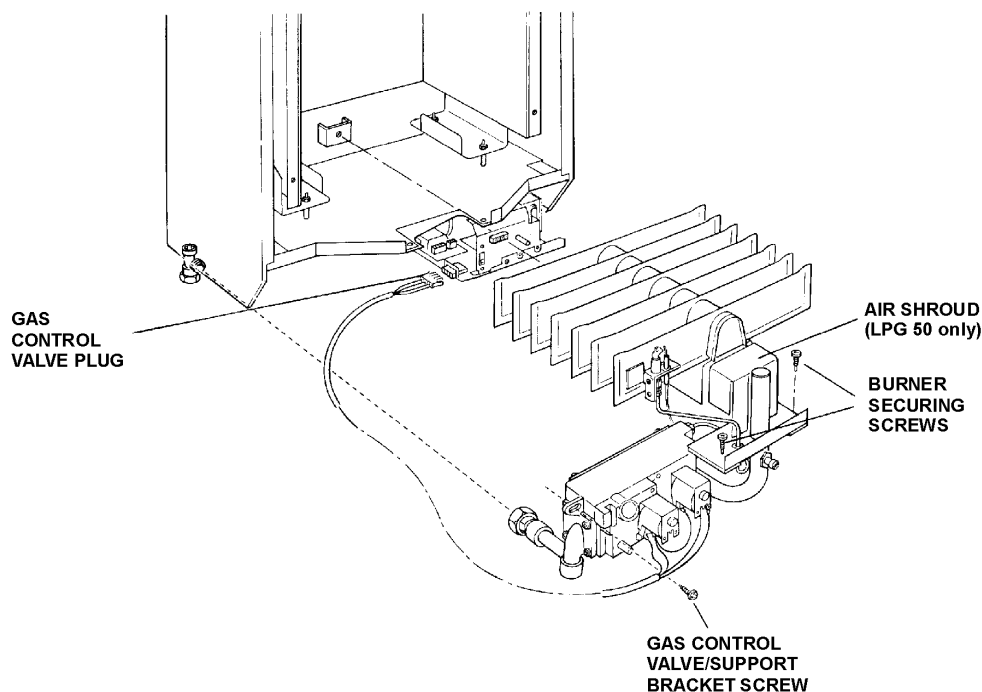

FIG. 29 BURNER AND GAS CONTROL ASSEMBLY
- J. Unplug the electrical supply leads for the gas control valve from the control box. See FIG. 29.
- K. Remove the screw securing the gas control valve to its support bracket. See FIG. 29.
- 6. Unscrew the pilot, main burner injector and pressure test nipple from the burner. On LPG 50e boiler access to the main burner injector is improved by first removing the air shroud. See FIG. 29.